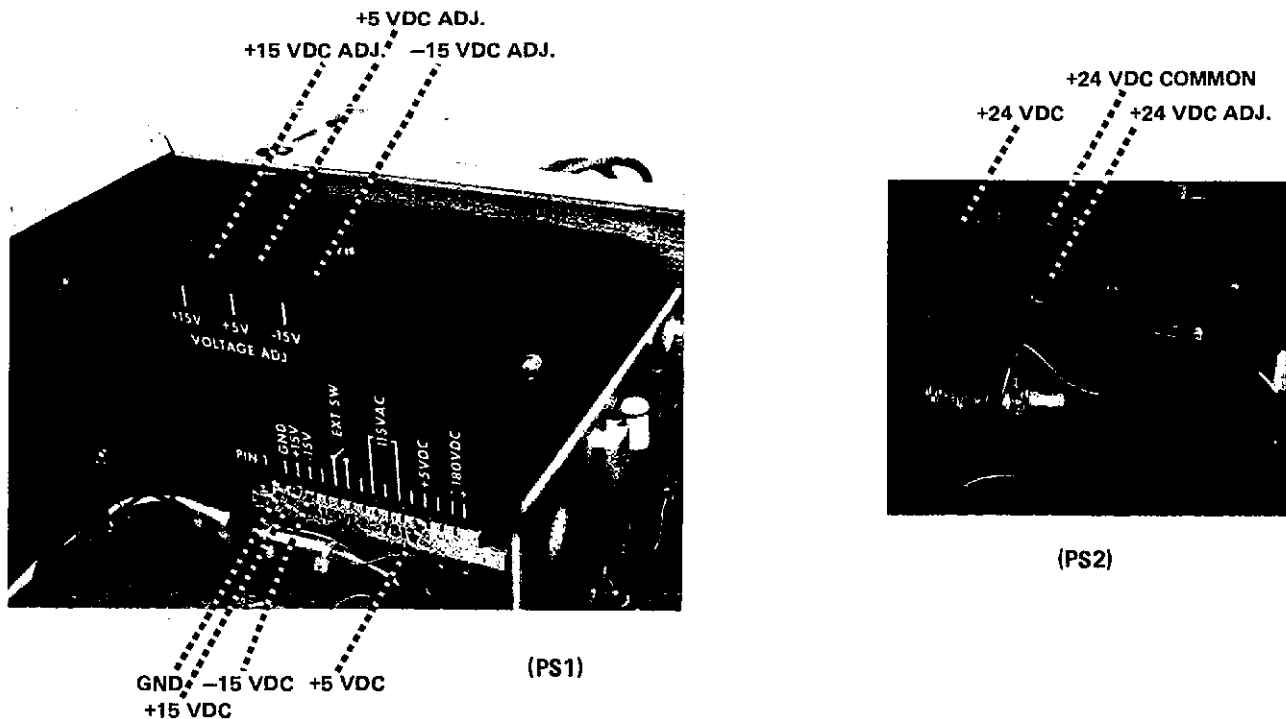
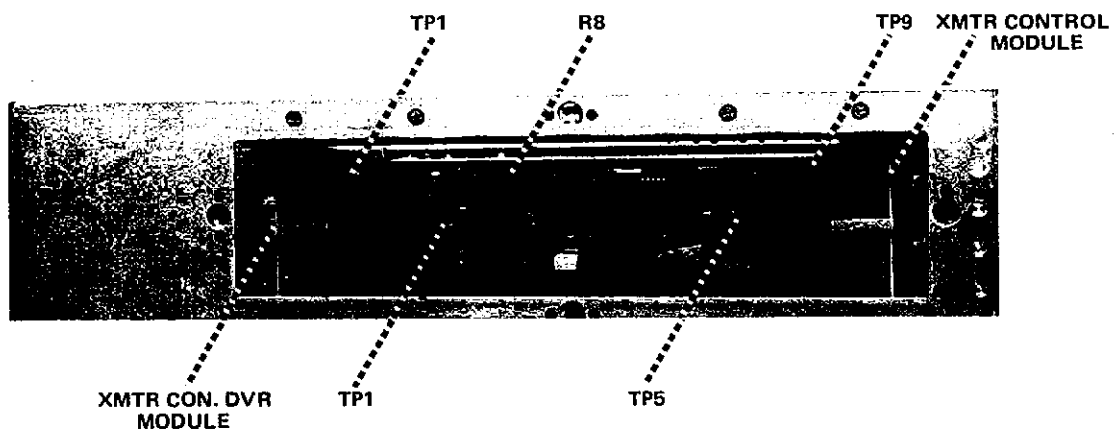

Figure 5.12. Voltage Test Point and Adjustment Locations of the TCC Power Supplies
Figure 5.13. Test Point and Potentiometer Locations of the TCC Modules
5.3.2.1 Transmitter Coupler Control. Figure 5.12 shows the location of the voltage test and adjustment points of the power supplies in the TCC. Figure 5.13 shows the locations of the test points of the modules of the TCC. Figure 5.13 also shows the location of a potentiometer (R8) of the Transmitter Control Module. The test point waveforms are TTL level waveforms.
5.3.3.1 Transmitter Coupler Control. Table 5.1 lists the voltage limits of both power supplies of the TCC. The TCC power supply adjustments are as follows (see Figure 5.12 for adjustment locations):